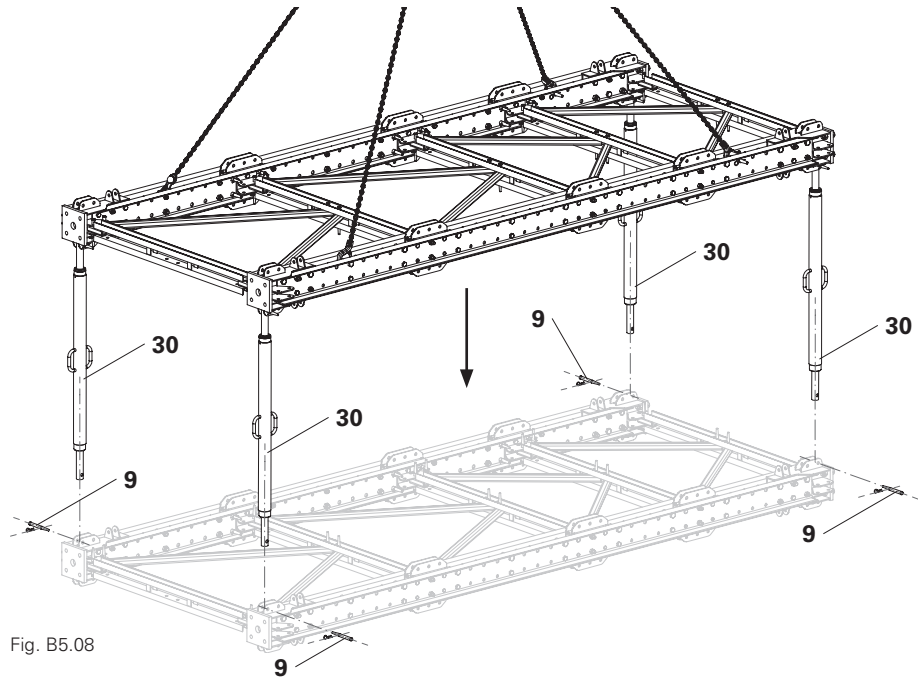
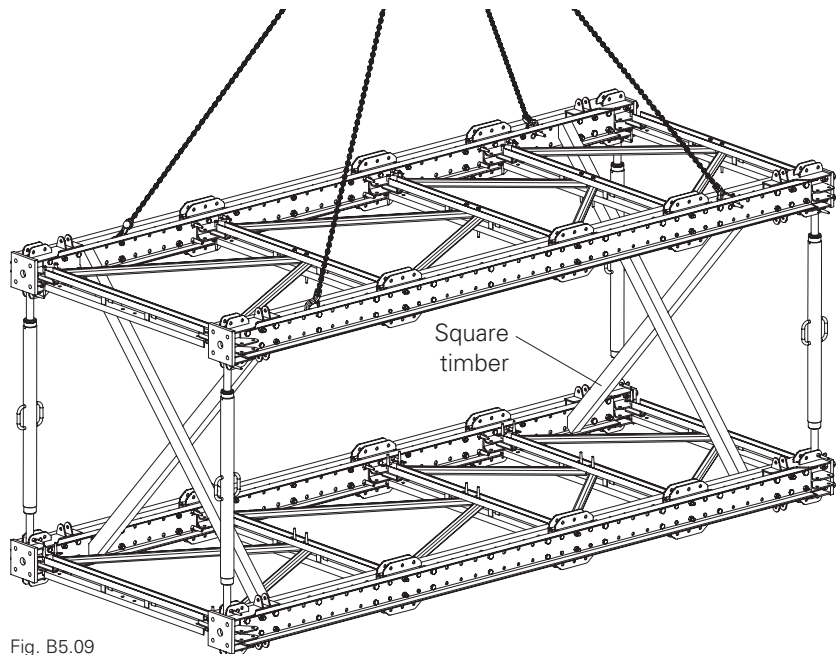

Fig. B5.08
Fig. B5.09
2. Lower the module with the crane until the bottom fitting pins  $\text{Ø } 21 \text{ mm}$  (9) can be mounted. (Fig. B5.08)
3. Connect the heavy-duty spindles SLS (30) to the bottom module using 1x fitting pin  $\text{Ø } 21 \text{ mm}$  (9) each.
4. Secure position, e.g. with square timbers. (Fig. B5.09)